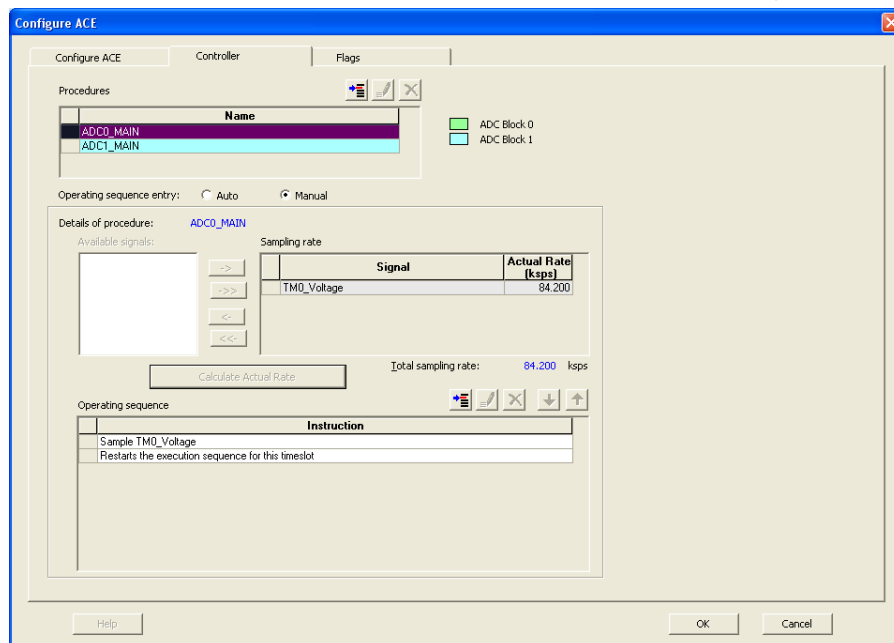

Figure 13 · MSS ACE Configuration: Final Controller Tab
11. Click **Calculate Actual Rate**. The final **Controller** tab window is displayed as shown in Figure 13 .